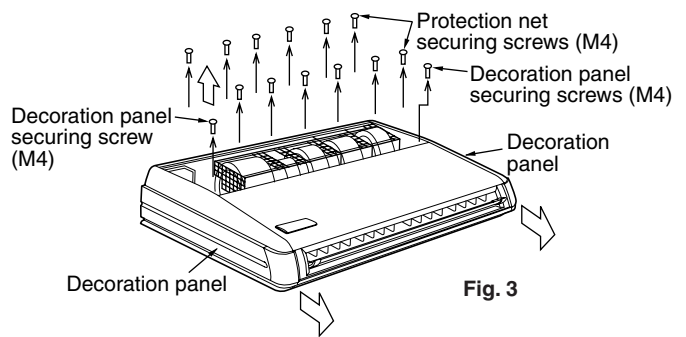

Fig. 3
- After removing the securing screws for the decoration panels (one each), pull them forward (in the direction of the arrow) and remove them. **(Refer to Fig. 3)**
- Remove the securing screws for the protection net. **(Refer to Fig. 3)**